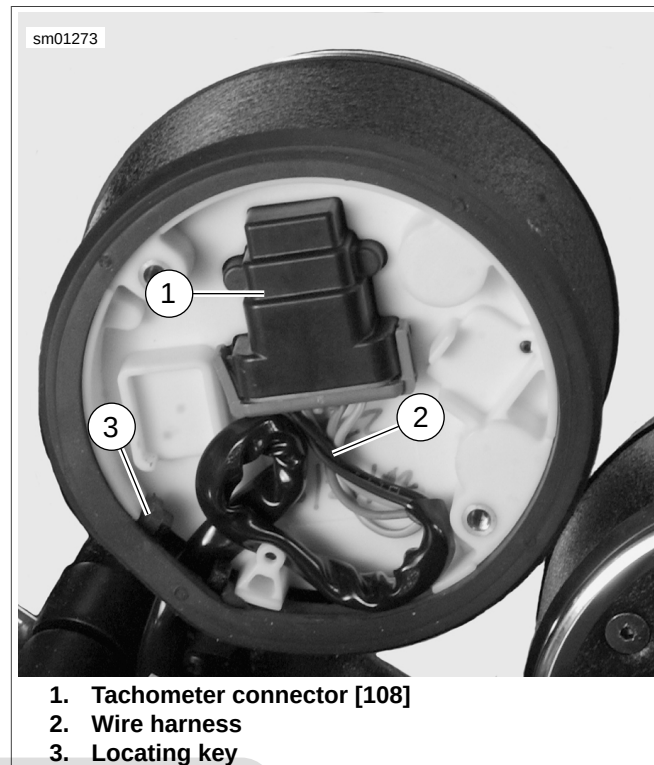

Figure 6-20. Tachometer: Dual Gauge Models
3. Slide tachometer (9) into housing (5) and press firmly until fully seated.
4. See Figure 6-20. Loop wiring to fit in available space and mate connector [108] halves.